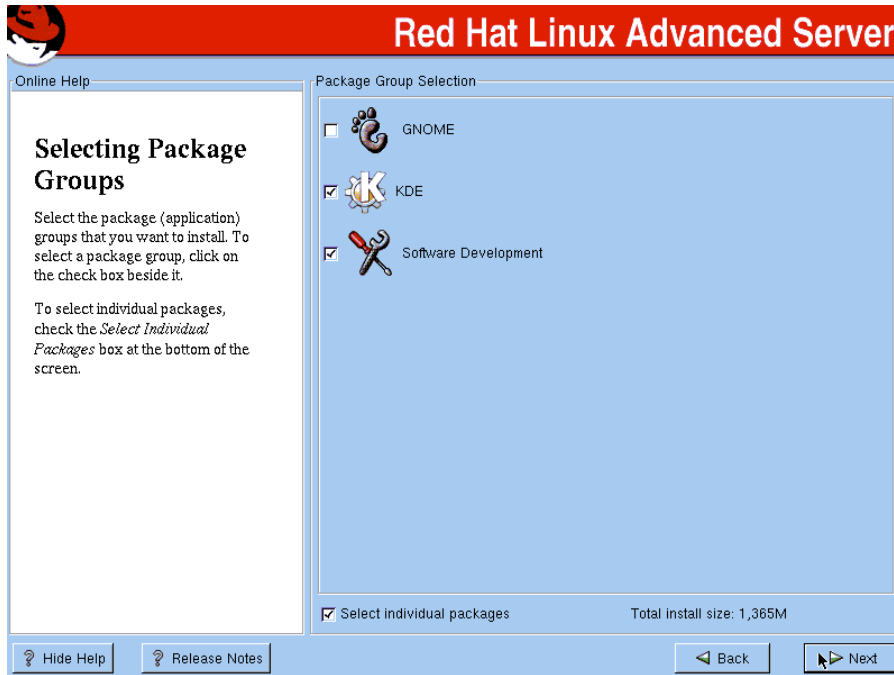

Figure 24. Package Group Selection
- f. When the Package Group Selection screen is displayed (Figure 24), select Software Development, which you will need for the Oracle9i installation. Check Select individual packages to review and modify selections as needed.